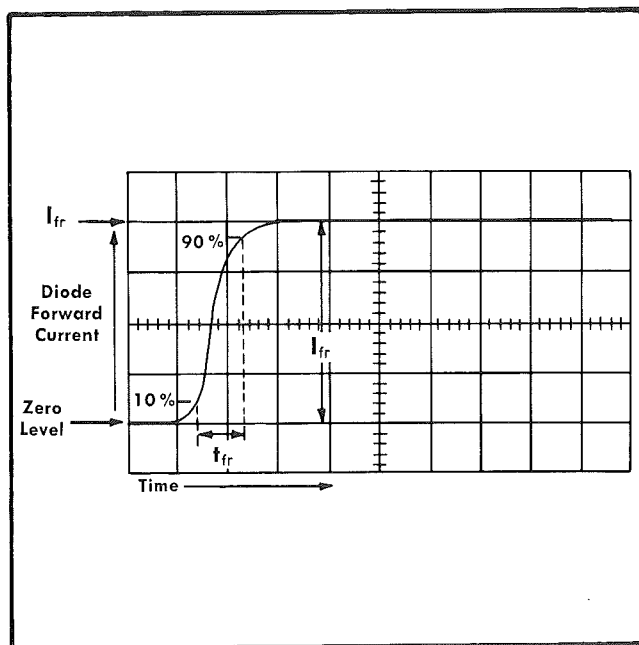

Fig. 3-1. Diode forward recovery switching display.
#### Diode Switching Terms (See Figs. 3-1 and 3-2.)
6. Turn the pulse generator on, and set the oscilloscope triggering controls for a display similar to that shown in Fig. 3-1. Use this display to measure the forward-recovery switching characteristics of diodes when the forward switching voltage is known. Proceed to step 7 if  $I_{fr}$  is known.
7. Set the pulse generator output for the known  $I_{fr}$  indication on the display (see Fig. 3-1). Use this display to measure the forward-recovery switching characteristics of diodes when  $I_{fr}$  is known.